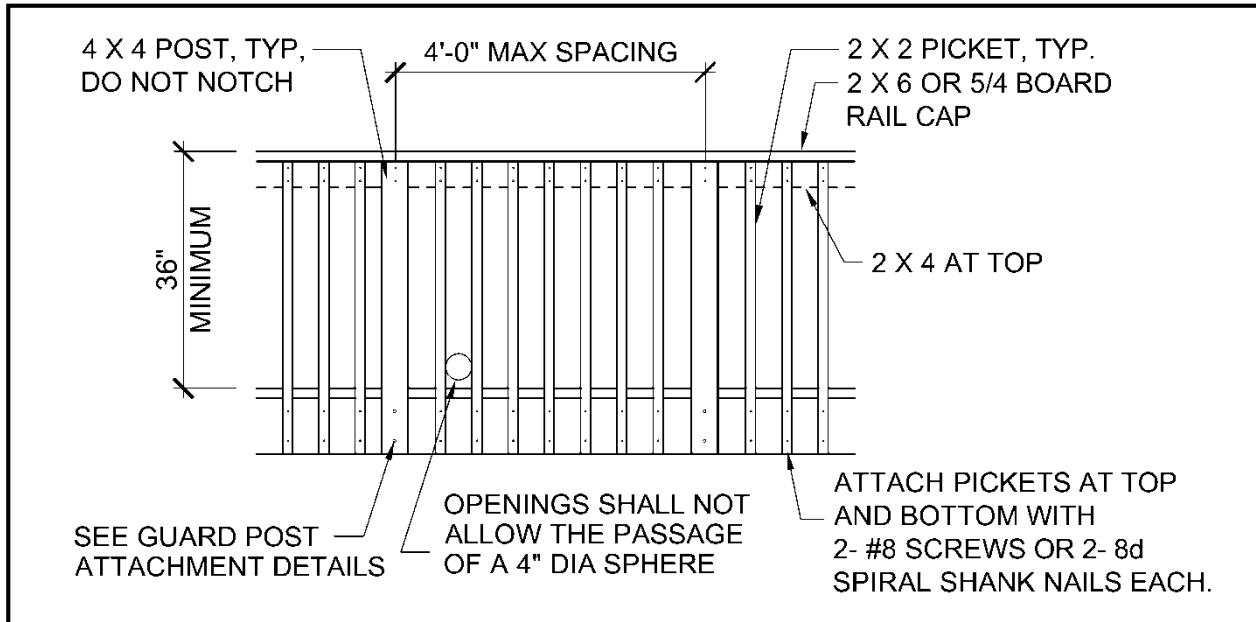
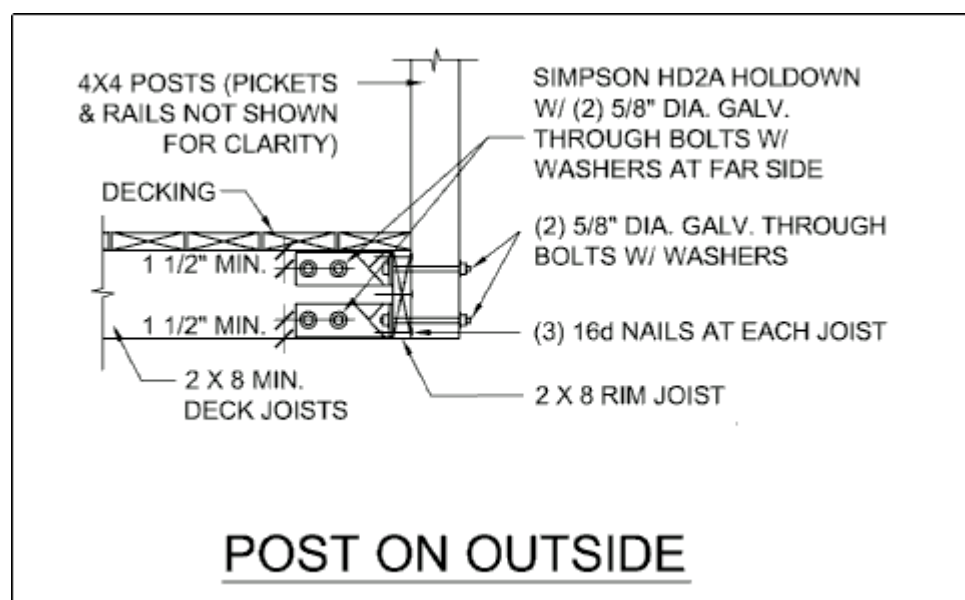
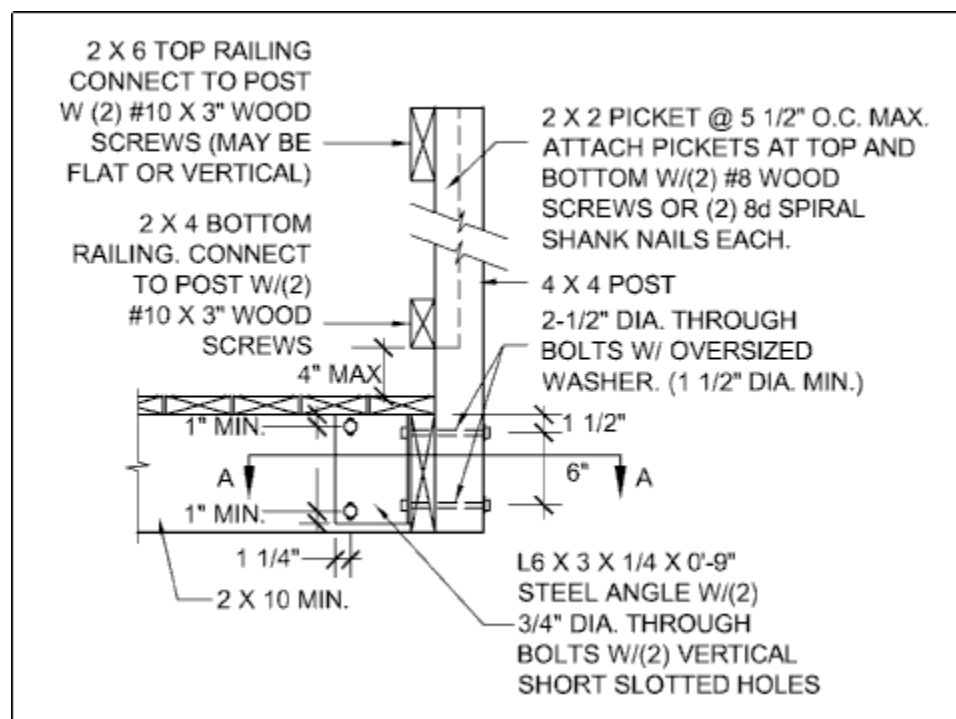

Figure 23 – Typical Guardrail Detail
Figure 24 – Guardrail Attachment Option 1
Figure 27 – Guardrail Attachment Option 3
**Guardrail Post Attachment:** There are three options for guardrail attachment provided, you may choose one that suites your needs or provide a design for approval. Guardrail posts shall be spaced per Figure 23 and attached per Figures 24, 25 or 27 and 26, 29. **Note: 2x8 minimum joists are required for Figures 24 and 25, and minimum 2x10 joists for Figure 27.**